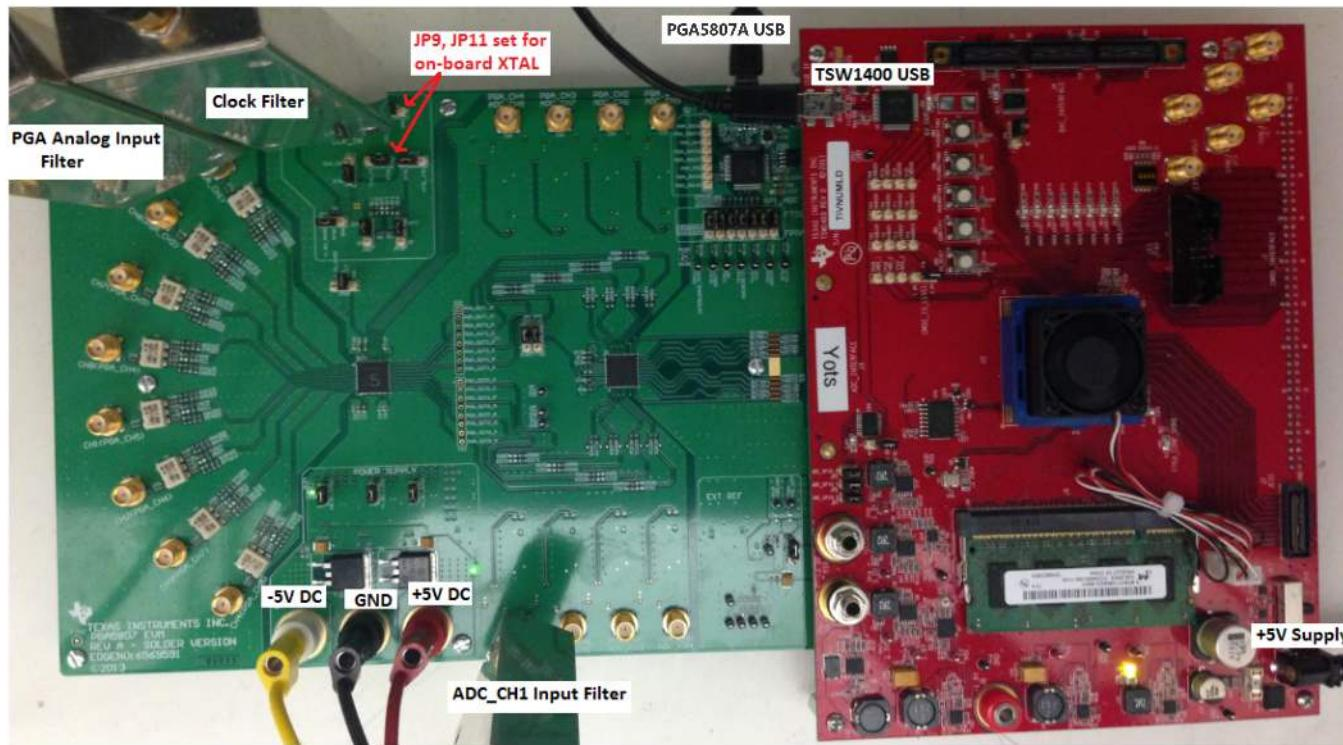
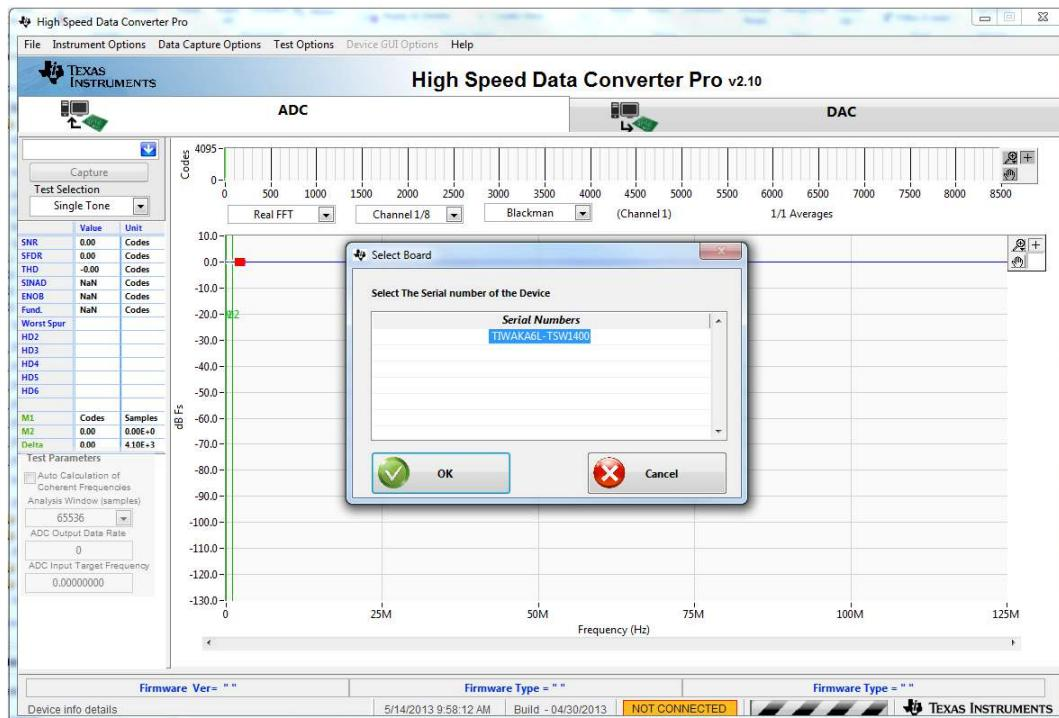

Figure 19. TSW1400 and PGA5807A Setup
Figure 22. TSW1400 GUI Setup (a)
The connections shown in Figure 19 should be made for proper hardware setup (*Note: Testing the LVDS interface between the PGA5807A EVM and the TSW1400 EVM can be performed by testing the ADS5296A which comes installed on the PGA5807A EVM. Using a RAMP test pattern function that is generated within the ADS5296A along with the on-board 80-MHz crystal oscillator (XTAL) that provides the ADC sampling clock, the LVDS interface can be tested with no signal generators required. This configuration is only recommended for testing the RAMP function as low phase noise filtered signal sources must be provided to the ADC clock input and the ADC analog inputs or PGA5807A analog inputs for measuring device performance. Also, the on-board XTAL providing the sampling clock to the ADC provides a 3.3-V signal at its output. This signal level exceeds the maximum voltage rating of the ADS5296A clock input port. Therefore, if EVM jumpers are configured such that the ADC clock port is single-ended, the clock input signal will exceed the maximum voltage rating of the device. This is not a problem for evaluation purposes but could have long-term reliability consequences on the device and is, therefore, not a recommended implementation.*
1. With the setup outlined in Figure 19 established, launch the *High Speed Data Converter Pro* GUI. The GUI should automatically detect the serial number of the TSW1400 EVM, connected as shown in Figure 22. Click on **OK**.